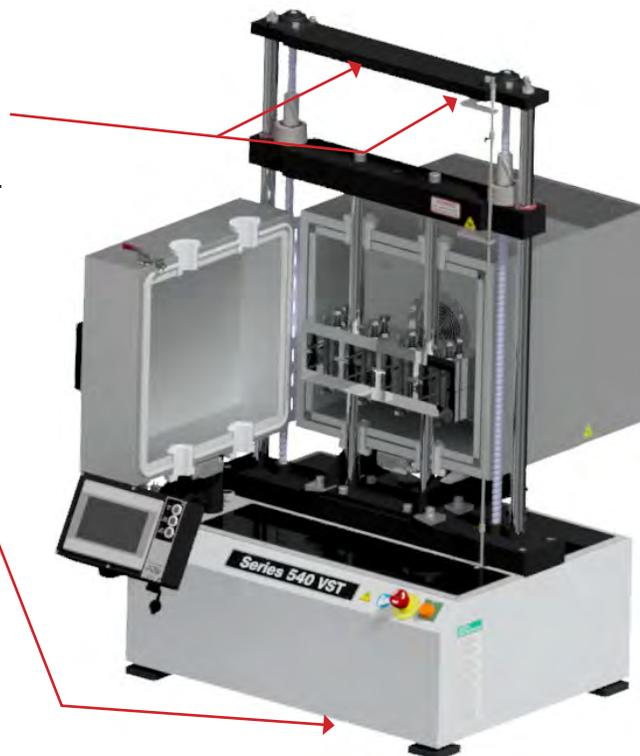

Figure D.1: Lifting Series 540 Sealant Tester
**CAUTION:** Lift the Series 540 Sealant Tester under the base, preferably or if necessary under the upper crosshead. If lifting by the crosshead, be careful not to damage any components with the lifting device. See Figure D.1 on p.8.